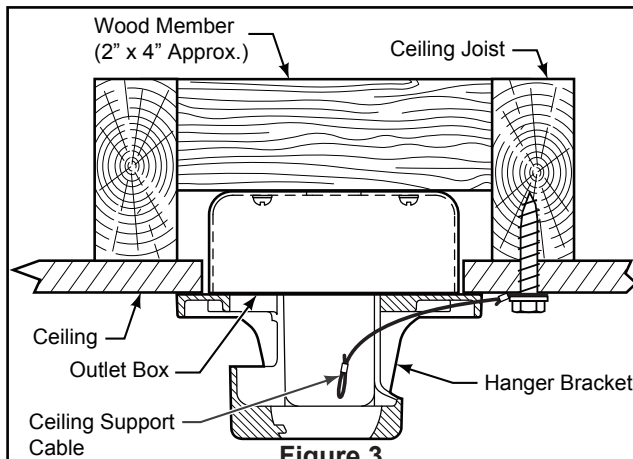

Figure 3
3. Loosen the two set screws and locking nuts in the downrod support of the motor assembly. Route brown, blue, red, gray, yellow wires and safety cable through the downrod. (Figure 3)
- ☐ 1. Securely attach the hanger bracket to the outlet box using the outlet box screws and washers supplied with the fan. (Figure 3)
- ☐ 2. Drill a 1/4" pilot hole into the building structure to prevent splitting or cracking with installation of the lag bolt. Using the 3/8" x 2" lag bolt and flat washer, attach safety cable to ceiling joist or wood structural member. The lag bolt will pass through the flat washer, safety cable loop, and into the building structure. (Figure 3)
- NOTE:** Ceiling support cable cannot be secured to outlet box only, it must be directly secured to ceiling joist or structural member using the 3/8" x 2" lag bolt and flat washer. (Figure 3)
2. Slide the receiver into the hanger bracket before wiring as shown in figure 3.